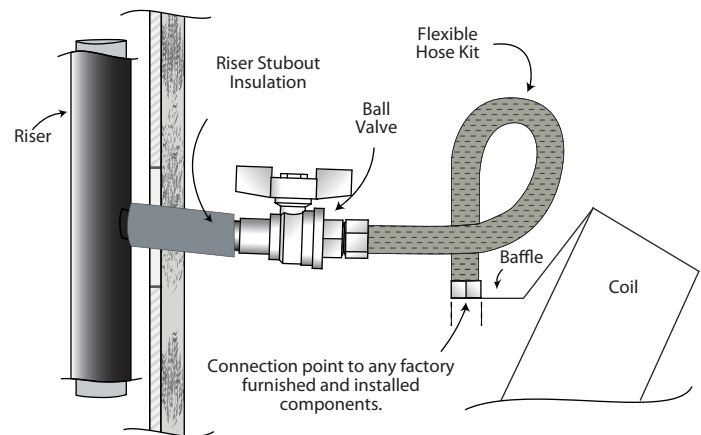

Figure 18
4. All Mega Modular units use reinforced braided stainless steel flexible hose kits for piping between field installed risers and unit water coils as shown in Figure 18. Each hose has threaded connections on each end. The hose kits allow for riser fluctuations due to thermal expansion.